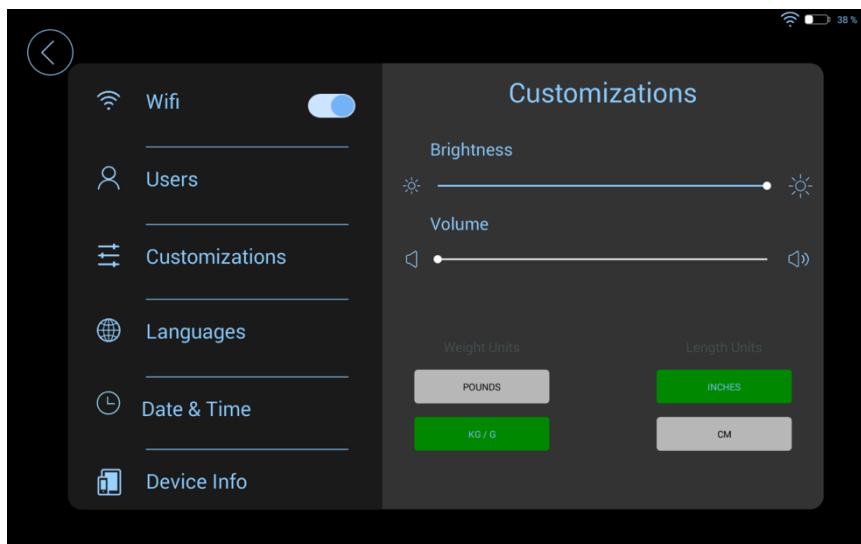

Figure 13. Custom Settings Page
13. Click  on the main interface, enter the custom settings interface "Customizations" to set the screen brightness, sound size and unit (Figure 13).